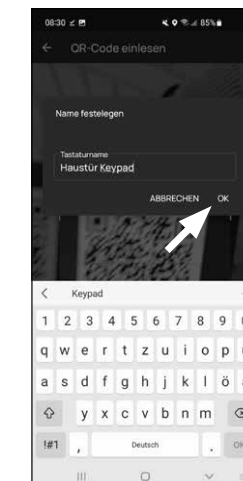

Fig. 10
- In the following window, you will be prompted to assign a name for the keypad. Where several cylinders and secuENTRY components are used, it is recommended to name the keypad in such a way that you can directly identify what it is and where the keypad is located or attached. In the example in these instructions, the keypad is titled "Front door keypad". Confirm the name with "OK" (Fig. 10).